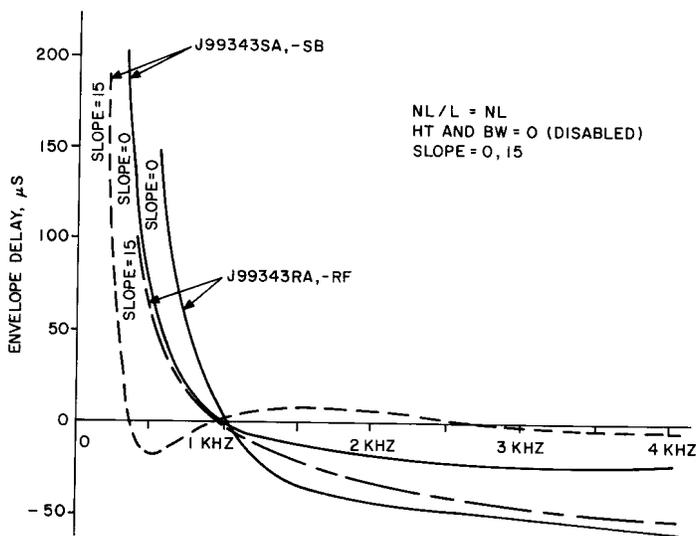

Fig. 18—Relative Envelope Delay Distortion of J99343SA, SB, RA, RF Repeaters—Nonloaded, Slope Variable
**6.07** Figures 18 and 19 show the envelope delay distortion of the repeater with maximum and minimum SLOPE settings when used with nonloaded and loaded cable. The high frequency bump circuits are disabled (HT=0).